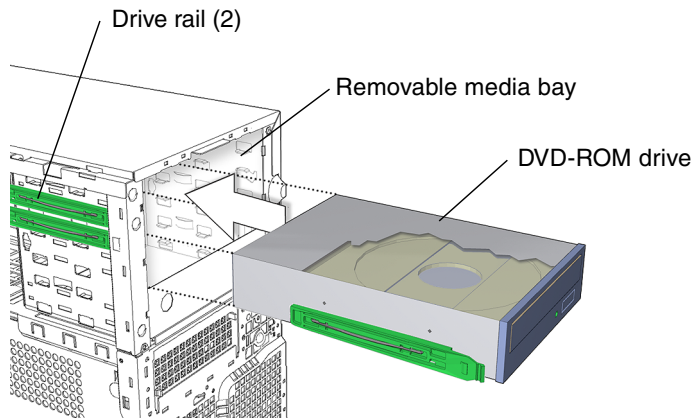

FIGURE 12-14 Installing the DVD-ROM Drive
4. Remove the spare drive rails from their storage position, if needed (FIGURE 12-14).
8. **Slide the DVD-ROM drive into the removable media bay (FIGURE 12-14).**